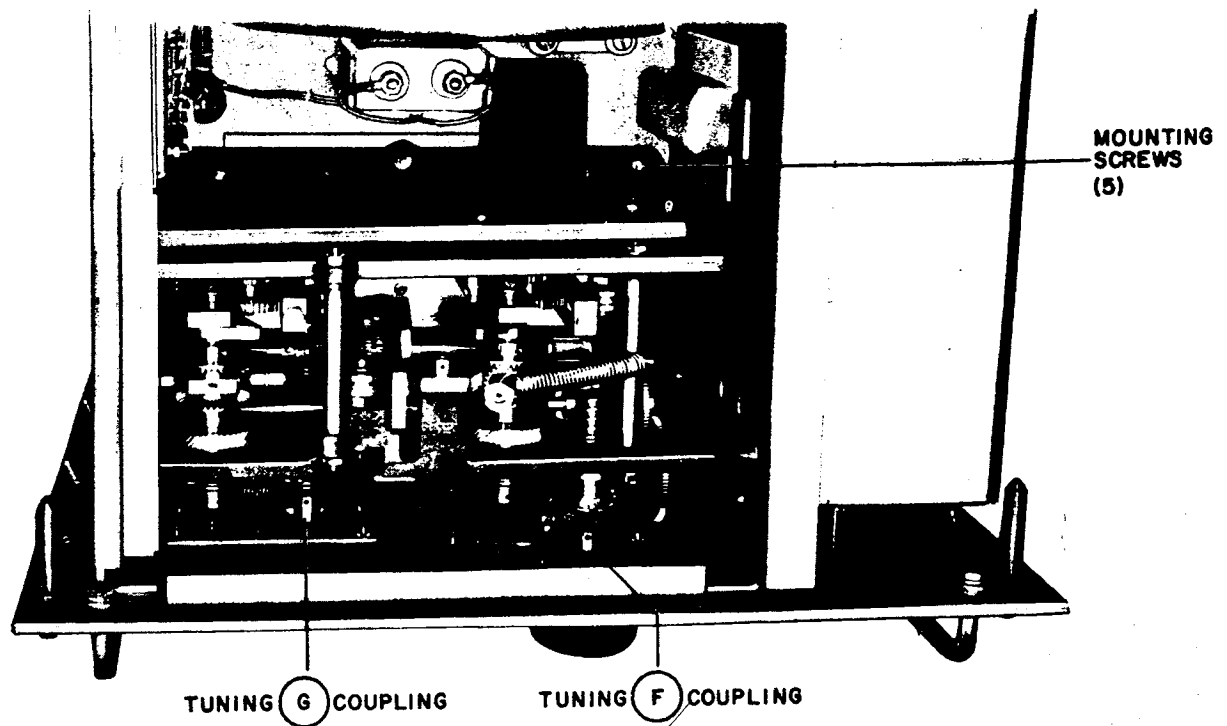
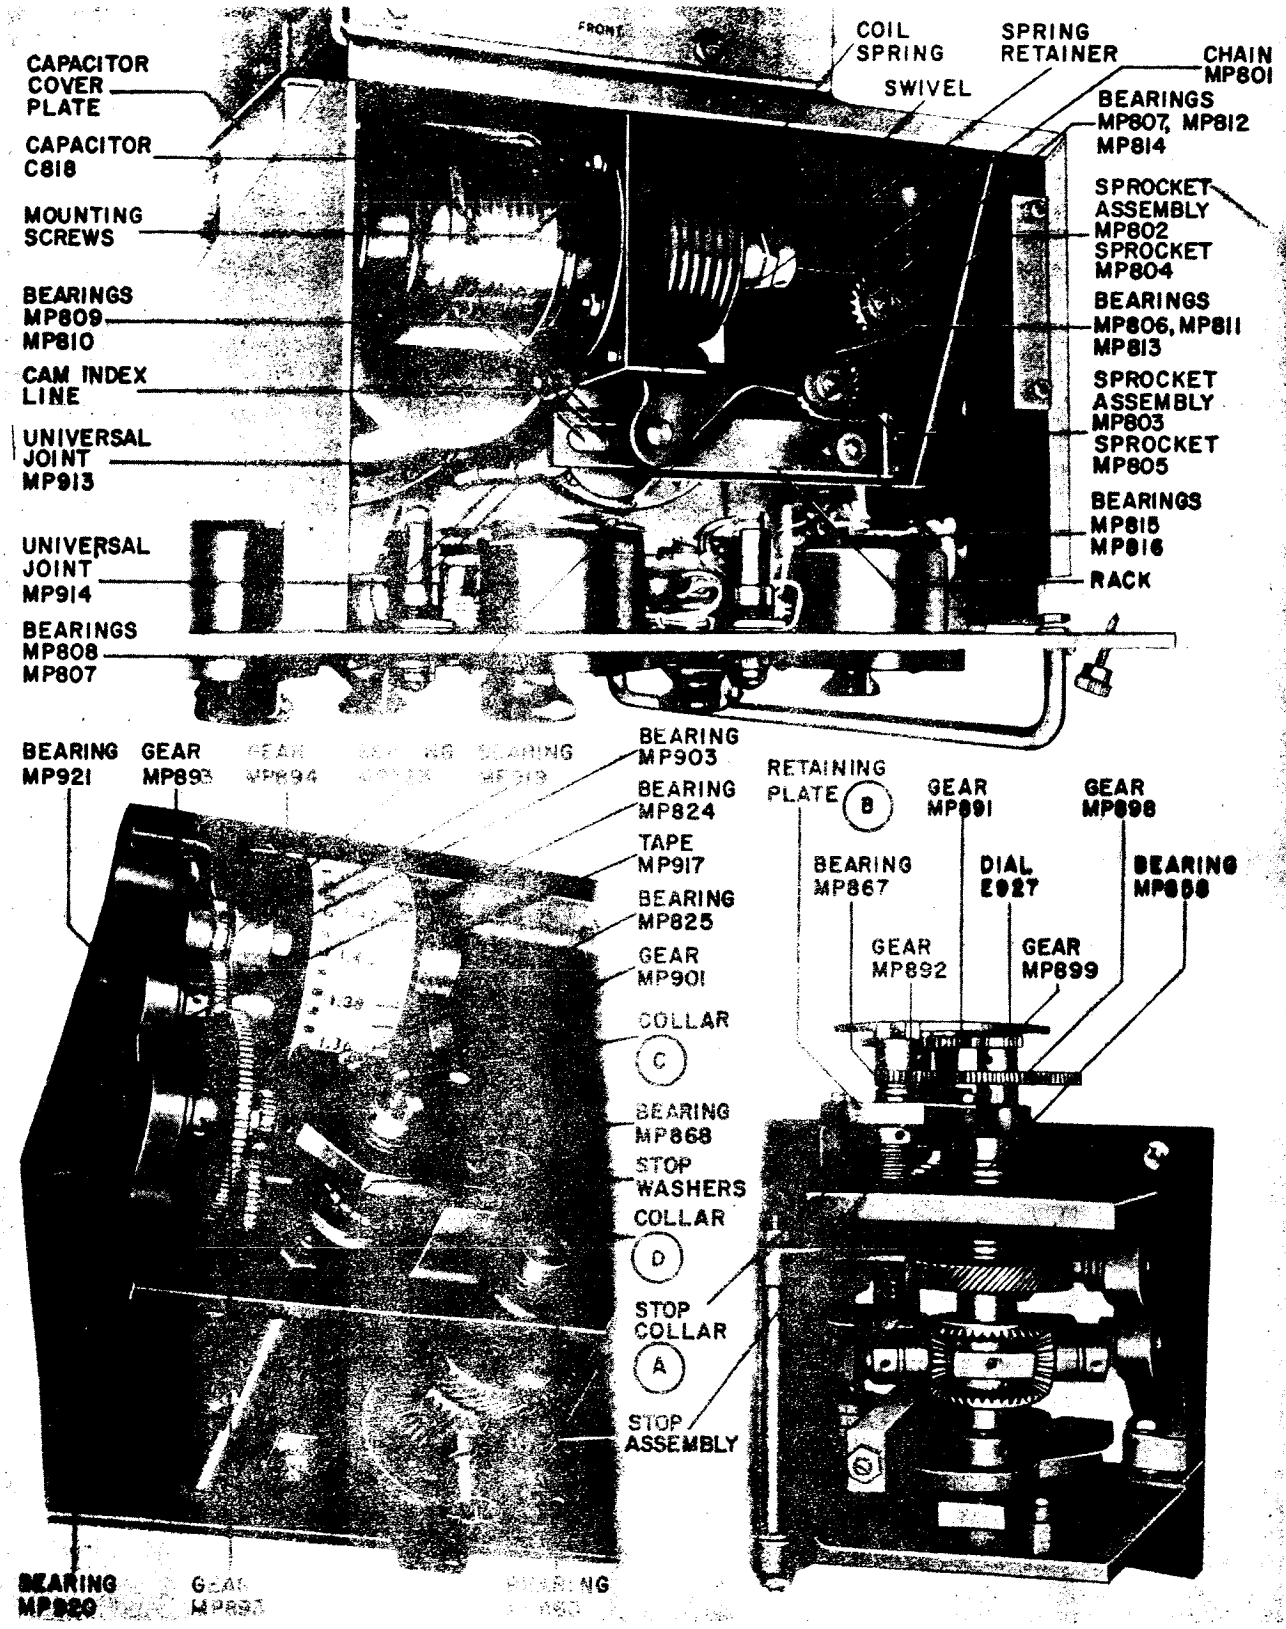

Figure 6-20. Radio Frequency Amplifier AM-2197/WRT-1, Removal of Tuning and Coupling Gear Train
Figure 6-22. AN-107/WRT-1 Timing and Coupling Mechanism, Internal Parts and Capacitor Drive
(2) R-F AMPLIFIER SUBCHASSIS.—To service the driver unit subchassis, remove the cover from the left side of the amplifier chassis. All parts in this subchassis are easily removed and require no outlined disassembly procedure. The remainder of the electrical subchassis are easily located and readily disassembled.
(3) BLOWER ASSEMBLY.—To remove the blower assembly from the bottom of the amplifier chassis, first disconnect all electrical leads at TB804. Then remove the four screws and nuts from the blower mounting bracket and the two screws and nuts from the motor bracket. The assembly can then be lifted from the amplifier chassis.
(4) TUNING AND COUPLING GEAR TRAIN REMOVAL.—To remove the tuning head and capacitor gear mechanisms from the amplifier chassis, proceed as follows:
Step 1. Set the TUNING (F) dial on the front panel of the front panel of the amplifier chassis to .30 MEGACYCLES.
Step 2. Loosen the two setscrews in the splin shaft to the tuning capacitor gear mechanism. The shaft is shown in figure 6-20.
Step 3. Refer to figure 6-20 and remove the capacitor cover plate. Disconnect the lead to capacitor C818.
Step 4. Remove the four bolts from the capacitor gear mechanism mounting plate, figure 6-20, and care-
Step 8. Refer to figure 6-22 and remove the retaining pin from the tuning dial gear MP891 and remove the gear and dial E927. Remove the pins from gears MP899 and MP898 and remove the gears.
Step 1. Replace gear MP822, shaft MP905 and bearing MP857. Replace the stop assembly on shaft MP905 and tighten the setscrew in collar (A). Replace the retaining plate (B). Replace thrust bearing MP867 and gear MP892. Drill and pin the gears and collar.
Step 6. Slide the shaft MP905 for gear MP822 through the front housing and install thrust bearing MP857 and gear MP822. Assemble the stop collar, end stop washer, ten stop washers, and the retainer plate on the shaft as shown in figure 6-22. Make sure that the tabs on the stop washers face toward the front panel of the housing and that gear MP822 mates with gear MP876. Insert a 0.002 inch thick shim between any two stop washers. Secure the stop washer housing and tighten the setscrew in the end stop washer. Remove the shim. Replace bearing MP867 and gear MP892.
Step 7. Place gear MP898 and gear MP899 on the section of the shaft protruding through the gear housing front panel as shown in figure 6-22. Make sure gears MP892 and MP898 mesh. Then replace gear MP891 and dial E927 with setscrews.
Step 9. Slide the shaft for the L806 drive cam through the left flange of the gear housing, and place the collar (F) on the shaft.
Step 22. Replace bearing MP868 and collar (C). Replace the remaining tape drive gears and bearings as shown in figure 6-22.
Step 29. Set COUPLING (G) to "O" and set the L806 drive cam so that the pin is 3/32 inch from the inner end of its groove. Pin gears MP876 and MP890.
Step 30. Reset COUPLING (G) to "50" and set rack MP911, idler MP896 and segments MP853 and MP851 on center. Lock these parts in this position and drill and pin them. Pin worm MP848.
Step 31. Set COUPLING (G) to "O" and adjust collar (A) (figure 6-22) to stop the dial at "O". Secure the collar with a setscrew and then drill and pin it.
Step 32. Set TUNING (F) to 0.30 MC and then set COUPLING (G) at 100.
Step 34. Set the COUPLING (G) to "O" and leave the TUNING (F) at 0.30 MC.
Step 36. Set the collar (D) on TUNING (F) shaft so that the stop assembly prevents counter-clockwise rotation of the shaft when the dial tape reads 0.30 MC. Drill and pin the collar.
(7) TUNING AND COUPLING UNIT REPLACEMENT.—To replace the tuning and coupling unit in the amplifier chassis, reverse the procedure outlined in paragraph 6-3g(4), then proceed as follows:
Step 2. Loosen the two setscrews in the tuning shaft universal joint MP914 to the tuning capacitor gear mechanism. See figure 6-20.
Step 3. Maintaining the setting of the TUNING (F) knob at 0.30 mc, rotate the capacitor drive cam